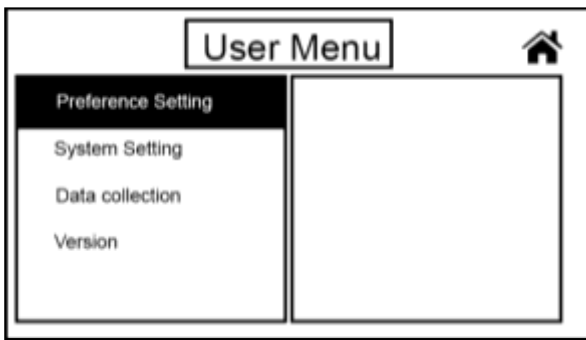
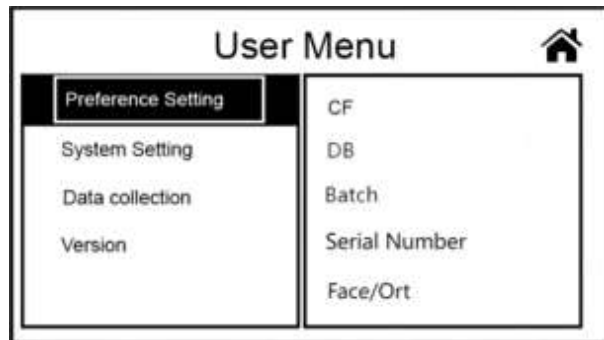

Figure 80
Figure 81
1) Touch the “Menu” key to enter the “User Menu” interface, as shown in Figure 80 below. Then press “Preference Setting” to enter the “Preference Setting” interface, as shown in Figure 81.